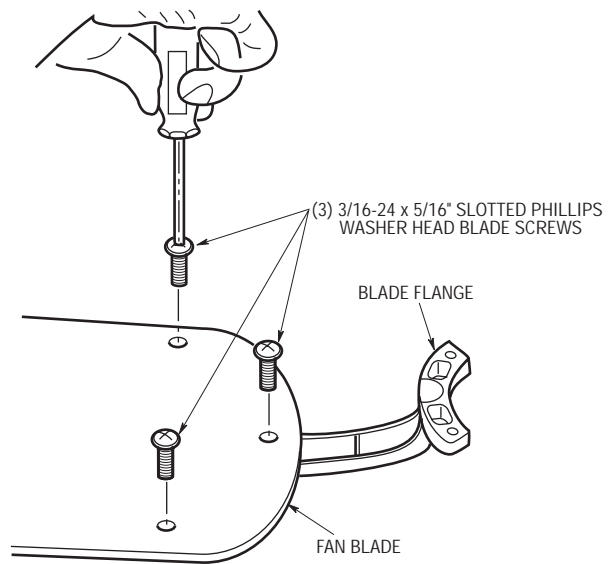

Figure 4
- 9. Mount blade flanges to fan blades using three 3/16-24 x 5/16" screws per blade (Figure 4).